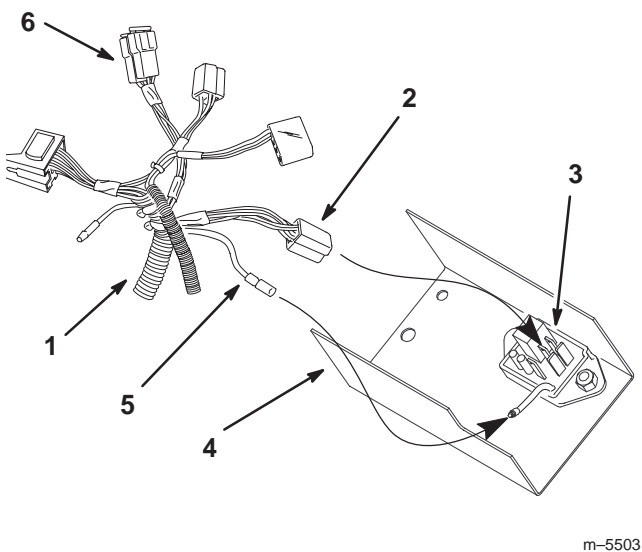

Figure 20
6. Install fuses to the edge of cover using the clip (Fig. 20).